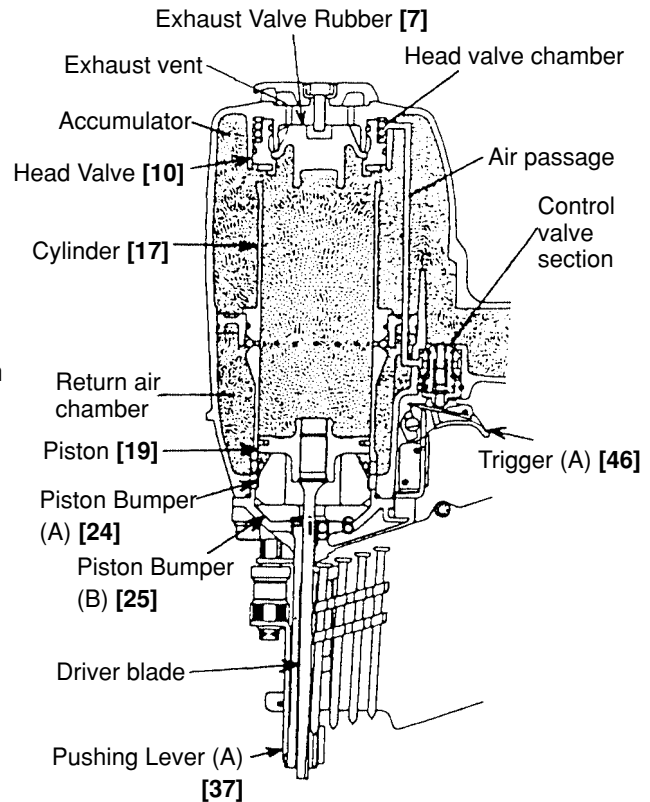
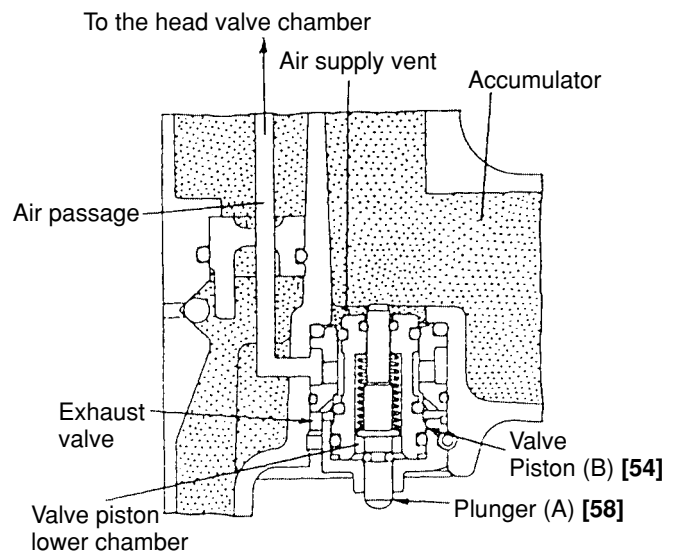

Fig. 7
Fig. 8 Control valve section
(3) During return (See Fig. 7 and Fig. 8.)